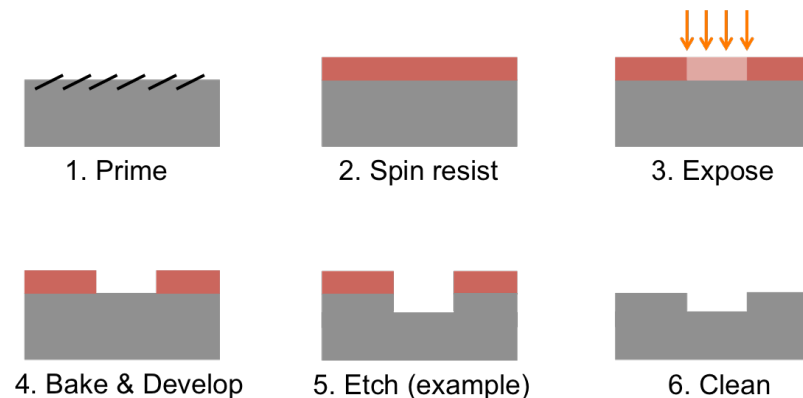

Figure 1. General Lithography Procedure
The procedure for standard photolithography steps is shown in Figure 1 with descriptions below. This is repeated many times throughout the entire process, so it is important that students are familiar with the basic photolithography steps.
5. Wafers are ready for subsequent processing such as implantation or etch. (In Figure 1, the patterned region is etched as an example.)